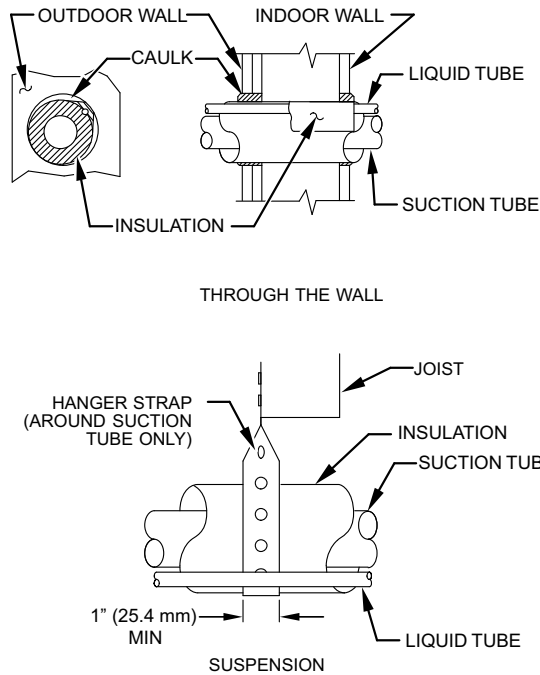

Fig. 1 – Piping Installation
6. When passing refrigerant tubes through the wall, seal opening with RTV or other pliable silicon-based caulk. (See Fig. 1.)
8. Do not suspend refrigerant tubing from joists and studs with a rigid wire or strap which comes in direct contact with tubing (see Fig. 1.)
10. When necessary, use hanger straps which are 1 in. (25 mm) wide and conform to shape of tubing insulation. (See Fig. 1.)